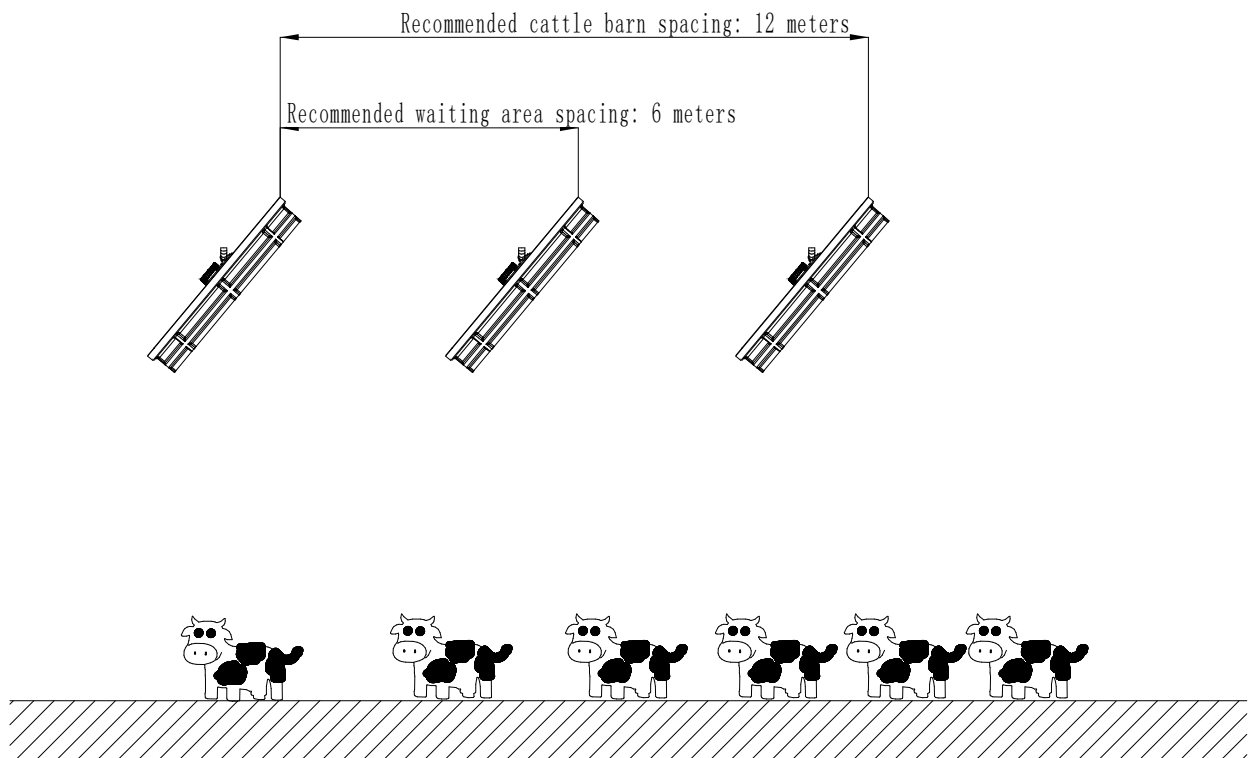
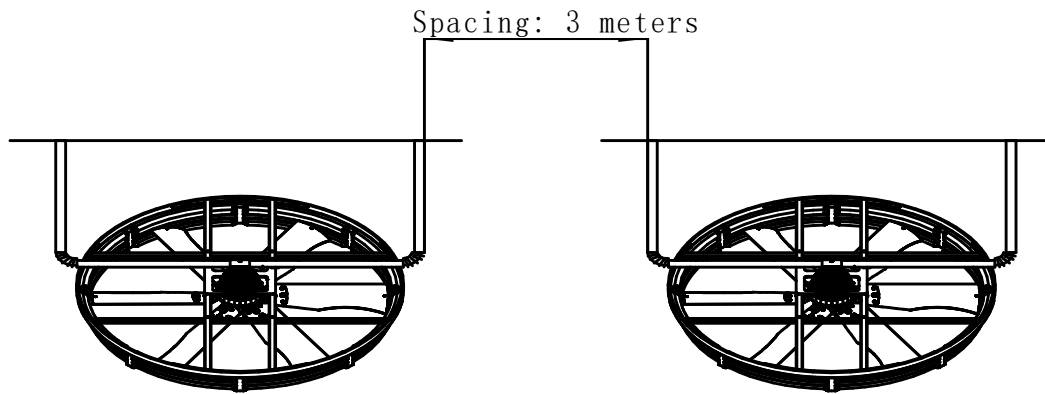

Figure 4
Figure 5
- b) Ensure the appropriate installation distance (Figure 4, Figure 5). On a ranch, the spacing can be adjusted according to the specific barn environment. Typically, for fans 63 inches and below, installation every 6 meters per unit works best; for fans 72 inches and above, installation every 12 meters per unit delivers optimal performance.